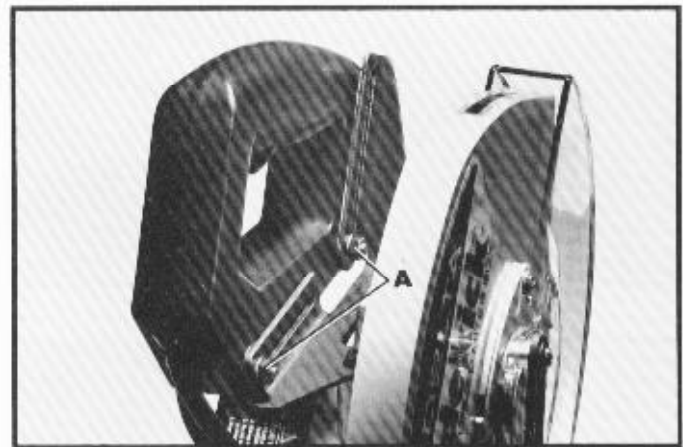
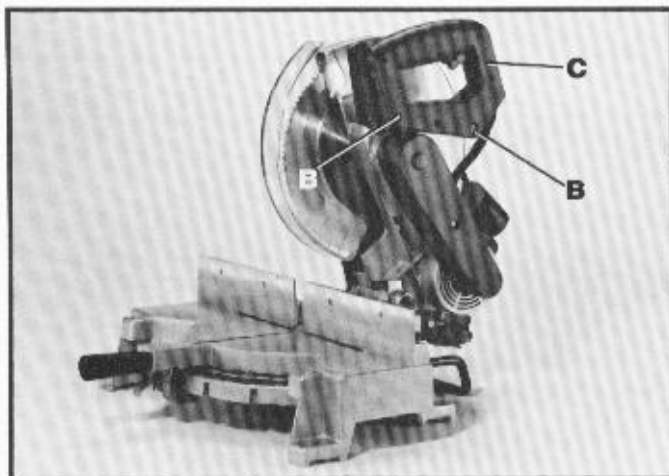

Fig. 27
Fig. 28
The cuttinghead handle can be repositioned for operator preference by loosening the two nuts (A) Fig. 27, and two screws (B) Fig. 28. Slide the handle to the desired position and tighten the two nuts and screws.
Fig. 28 illustrates the handle (C) in the lowest position which is usually used when the miter box is being operated on a bench or work stand.